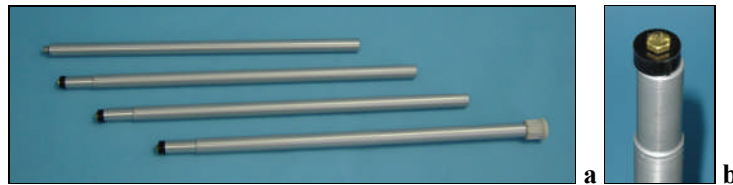

Figure 2. Sensor staff sections.
Assembly of the magnetometer is quite simple. Proceed as follows referring to Figure 2 through Figure 8.
- 1) Assemble the staff by inserting each section into the next twisting them until they are locked. As shown in Figure 2a, there are four staff sections. The section with the rubber tip is the bottom section and the section with the treaded end is the top section. Figure 2 b shows the cam-lock end of the staff section. This end is inserted into the open end of the matching section. Twisting the jointed sections by $\frac{1}{4}$ turn will lock them together.